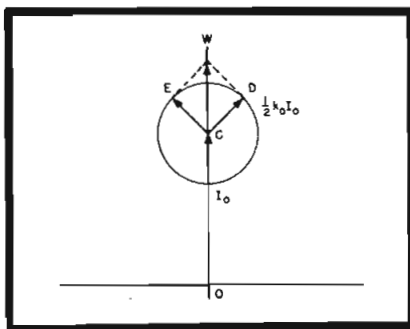

Figure 1
In Figure 1 is shown a phasor diagram of equation (8): OC is equal to the peak carrier amplitude, I_0 ; CD and CE are the two sideband amplitudes which are equal to $\frac{1}{2} k_a I_0$; and